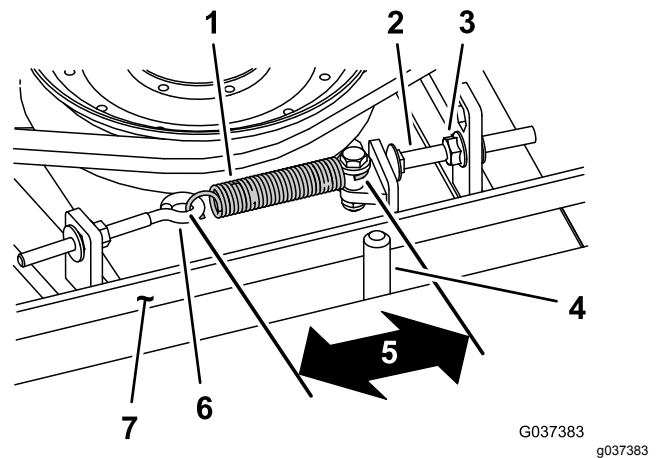

Figure 114
Check the condition and tension of the belt (Figure 114) after every 100 operating hours.
When properly tensioned, the inside measurement of the extension spring (hook to hook) should be approximately 8.3 to 9.5 cm (3-1/4 to 3-3/4 inches). Once the correct spring tension is attained, adjust the stop bolt (carriage bolt) until there is approximately 2 to 5 mm (0.065 to 0.185 inch) clearance between the head of the bolt and the idler arm (Figure 114).
**Note:** Ensure that the belt is positioned on the spring side of the belt guide (Figure 114).
2. Loosen the eye bolt (Figure 114).
3. Loosen the flange nut securing the stop bolt to the mounting tab and move the idler pulley away from the belt (Figure 114).
9. Connect the extension spring (Figure 114) to the eye bolt and tension the belt as follows: